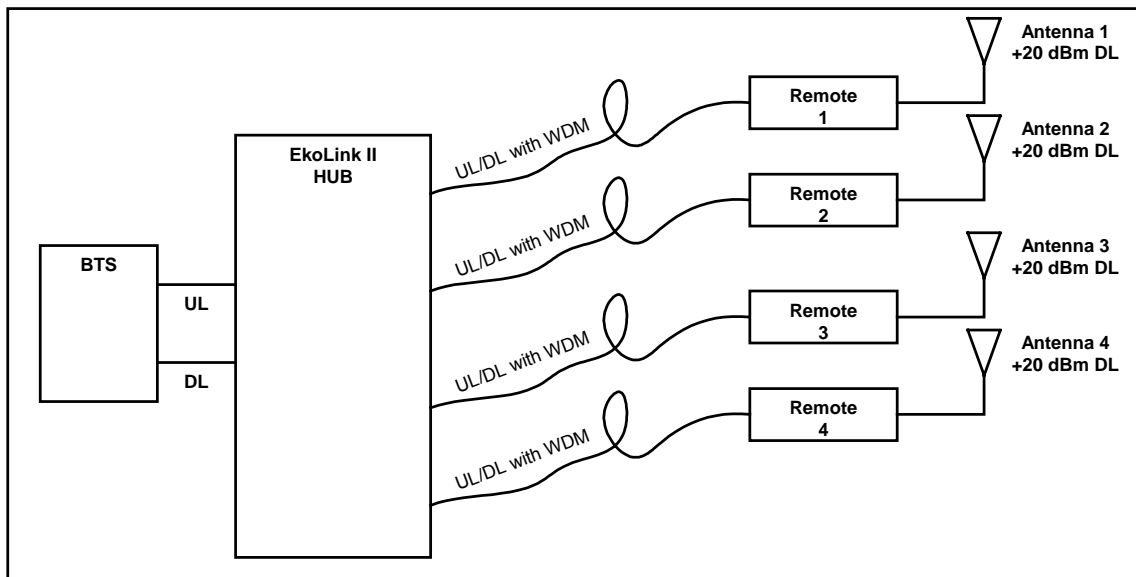

Figure 2. EkoLink II functional diagram.
- Figure 2: EkoLink II Functional Diagram
There are four main components comprising the EkoLink II System: The Hub, the Remote, the Fiber, and the Antenna. Figure 2 is a functional diagram of the EkoLink II system.